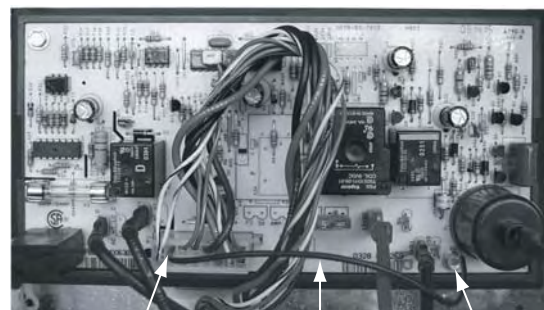

Figure 9. Resetting the power board
6. Locate Pin 15 on 16 pin connector (P1). Pin 15 is the empty socket to the right of the white/violet wire on the top row. See Figure 9.
7. Using an insulated jumper wire, short Pin 15 to the power board ground lug for 10 - 15 seconds. A click sound will indicate when the controls are reset. See Figure 9.